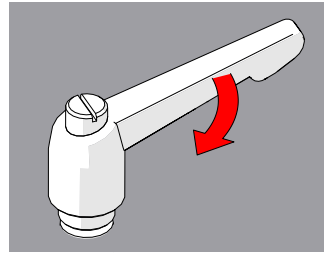

Fig. 220 - Tighten handle
3. Release the lever and utilize the new tightening position (*Fig. 220*).